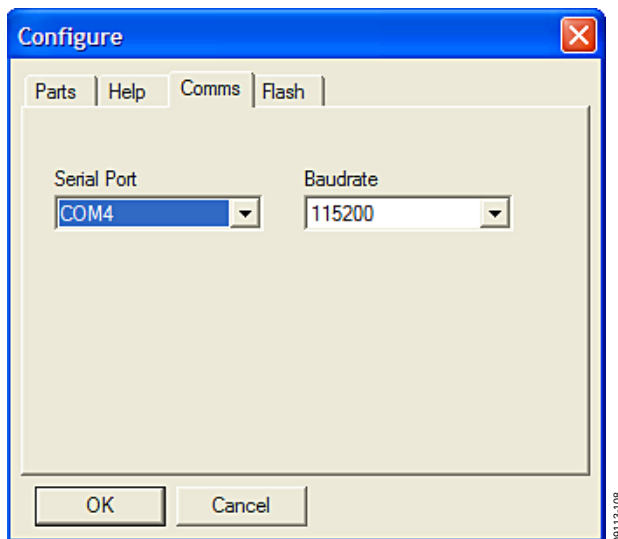

Figure 9. Selecting the Correct COM Port for the Downloader
- Click **Configure** to display the box shown in Figure 9.
The downloader file should be configured for the **ADuC7026** microcontroller on the ISEB. The only option you may need to change is the COM port. You can select the correct port from the **Serial Port** menu on the **Comms** tab (see Figure 9).